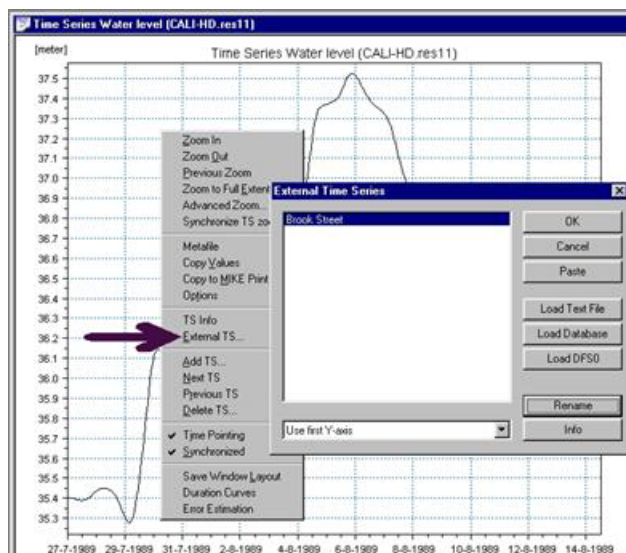

Figure 13.38 Adding an External Time Series via the Local Menu
3. Make the TSW active. Select the local menu option “External TS...”. In the ETS dialog select the <Paste> button. This opens the dialog for specifying a file name for the time series that we want to paste from the Clipboard. Specify a file name and select <OK> (see Figure 13.38).